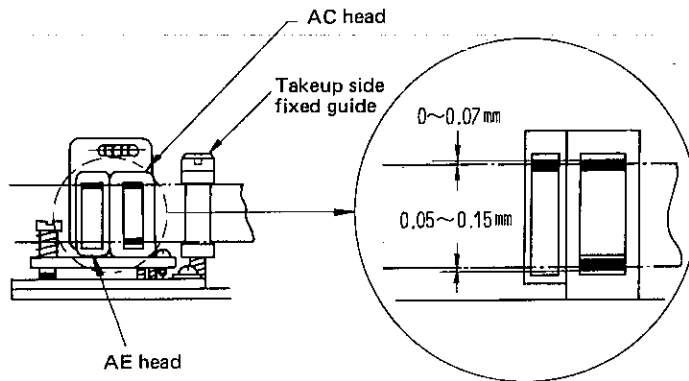

Figure 35.
3. Check that the height and tilt of the A/C head are just as shown in Figure 35 in relation to the tape.
- 5) Check that the height of the AC head is as shown in Figure 35 in relation to the tape.